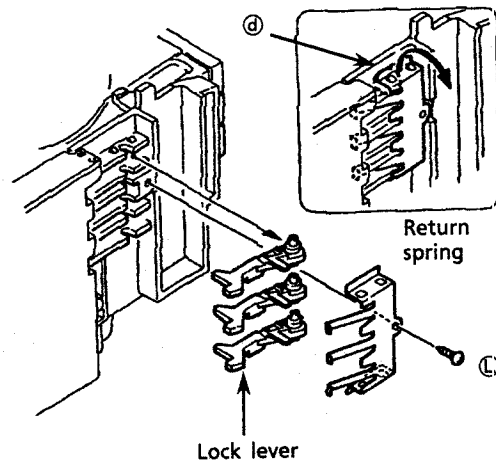
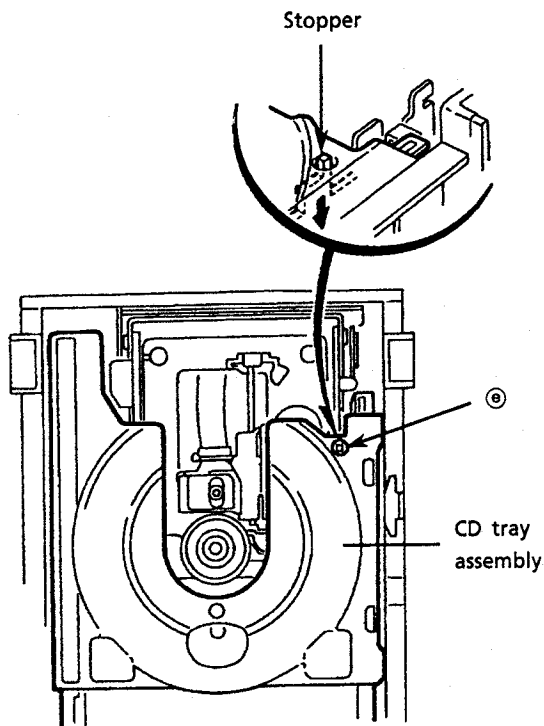

Fig.22
Fig. 23
7. Remove a screw ⑥ which secures the return spring and lock levers from the chassis ass'y.(See Fig. 22.)
8. Remove 2 pawls ⑦ which slightly secure the return spring to remove it.
10. Check that the lifter unit stopper is inserted into hole ⑧ located on CD tray ass'y. (See Fig. 23.)